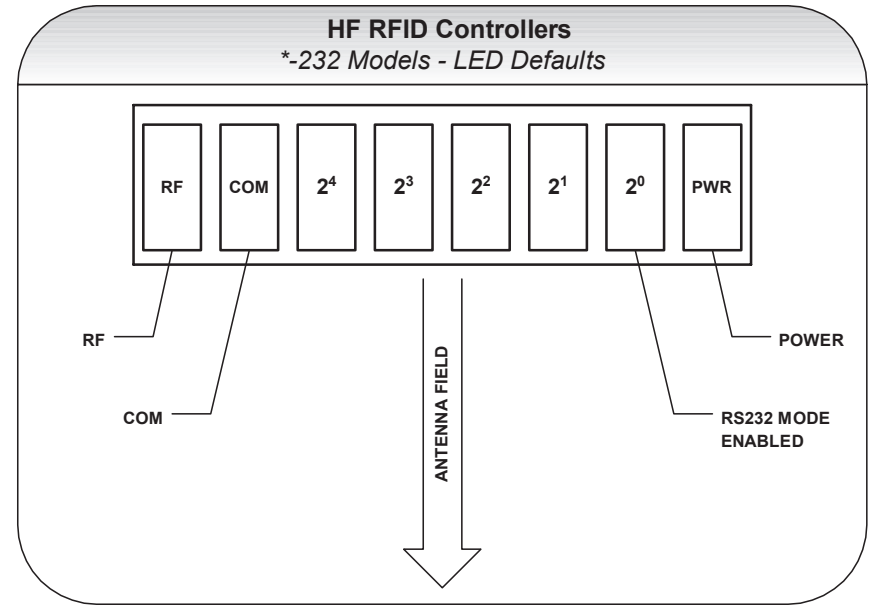

Figure 4: LEDs
5. Plug the power supply transformer into a suitable AC power source. Apply power to the controller after all cable connections have been made. The LEDs on the unit should flash. The amber colored LED 2⁰ will remain lit to indicate that the controller is in RS232 mode (see Figure 4).